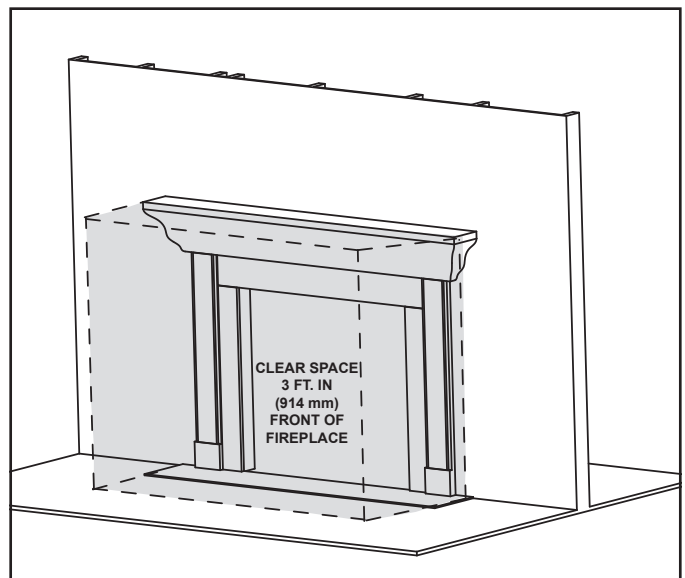

Figure 3.1 Clear Space Requirement - All Models
**WARNING! DO NOT place combustible objects in front of the fireplace or block louvers.** High temperatures could start a fire. See Figure 3.1.